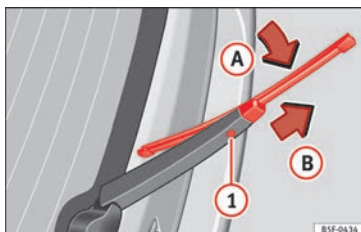

Fig. 83 Changing the rear wiper blade
- Turn the blade slightly » **Fig. 83** (arrow **A**).
- Hold down the release button **❶** while gently pulling the blade in the direction of arrow **B**.
- Insert a new blade of the **same length and type** in the rear wiper arm in the opposite direction to the arrow **B** and hook into place button **❶**.